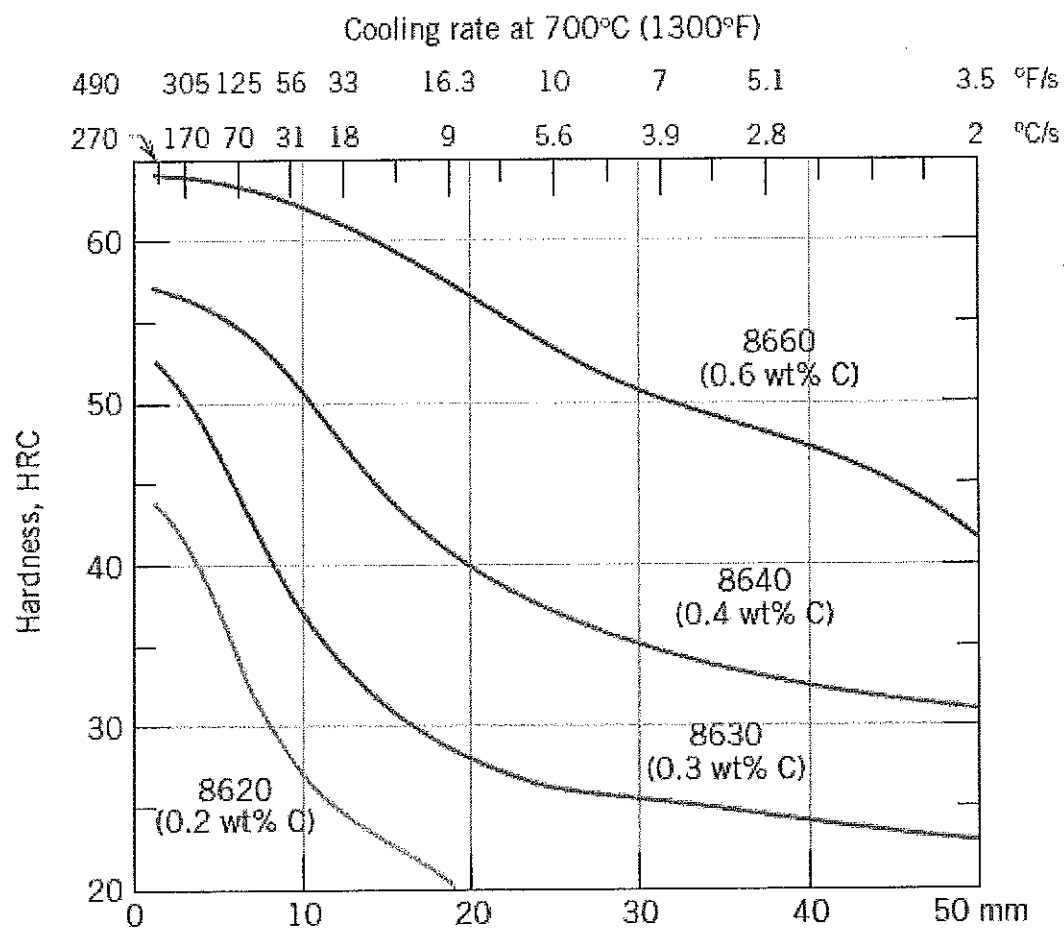

Fig. Q8(b) –Hardenability curves for four 8600 series alloys
- ii. Determine the hardnesses of these alloys at the surface and center, if they were quenched in moderately agitated water. Comment on which of the alloys satisfy the requirements. (Show your calculations. Refer Fig. Q8(a) (i) & Fig. Q8(b)). (6 marks)
- ii. Determine the hardness of these alloys at the surface and center, if they were quenched in moderately agitated oil. Comment on which of the alloys satisfy the requirement. (Show your calculations. Refer Fig. Q8(a) (i) & Fig. Q8(b)). (6 marks)
Fig. Q8(a) – Cooling rate as a function of diameter at surface, three-quarter radius ($3/4R$), mid radius ($1/2R$) and center positions for cylindrical bars quenched in moderately agitated (i) water and (ii) oil. Equivalent Jominy positions are included in bottom axis.